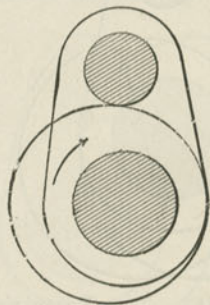

Fig. 182. One Eccentric, Lapless Valve, with rocker.
A. As the rocker arm reverses the direction of valve motion with relation to the driving axle, the eccentric should be set, where there is no lap, just  $90^\circ$  back of the crank pin, counted from the direction in which it is to run the engine, as shown in Fig. 182.